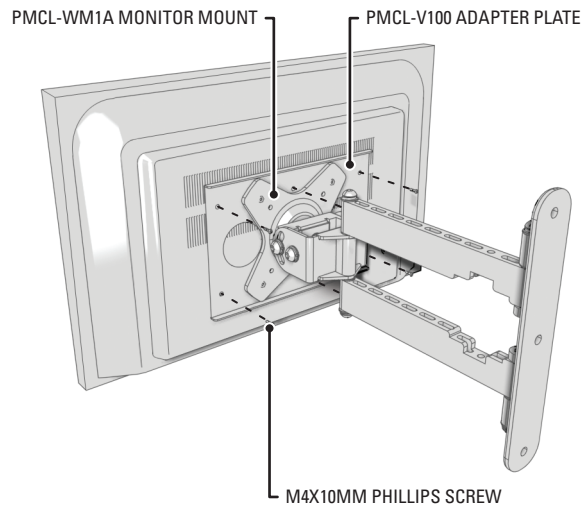

Figure 2. Attaching the PMCL-V100 Adapter and Monitor Mount to a Monitor
2. Attach the monitor mount to the monitor. Align the monitor to the correct hole pattern on the mounting plate. Use the M4 x 0.70 x 6 mm screws (supplied) to secure the monitor to the mounting plate. Refer to Figure 2.